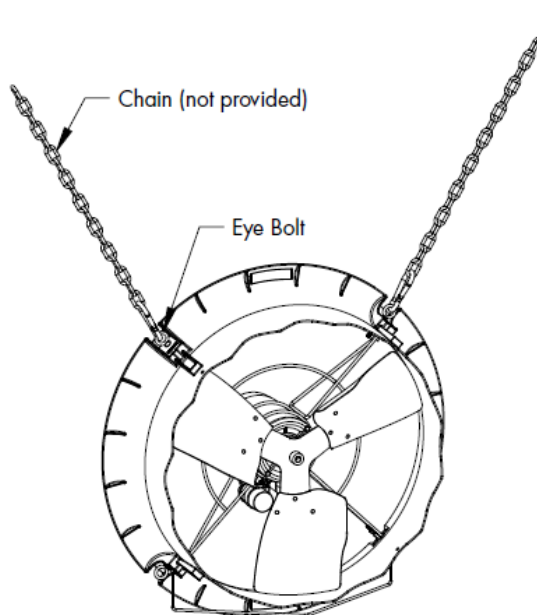
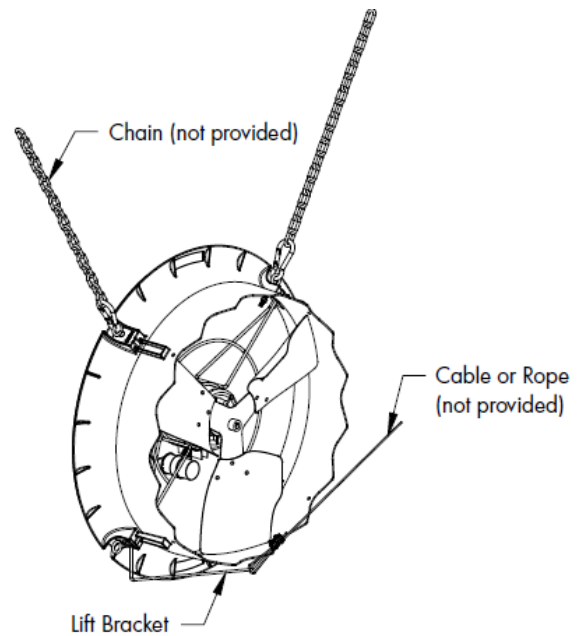

Figure 1A
Figure 1B
Step 1: For Horizontal Airflow attach chain to 2 of the Eye Bolts on the fan and then hang the fan from truss. See Figure 1A. Chain and hanging hardware not provided. If it is desired to pull the fan up out of the way when not in use for cleaning, then attach a cable or rope to the Lift Bracket and use a winch or actuator to pull the fan up. See Figure 1B.